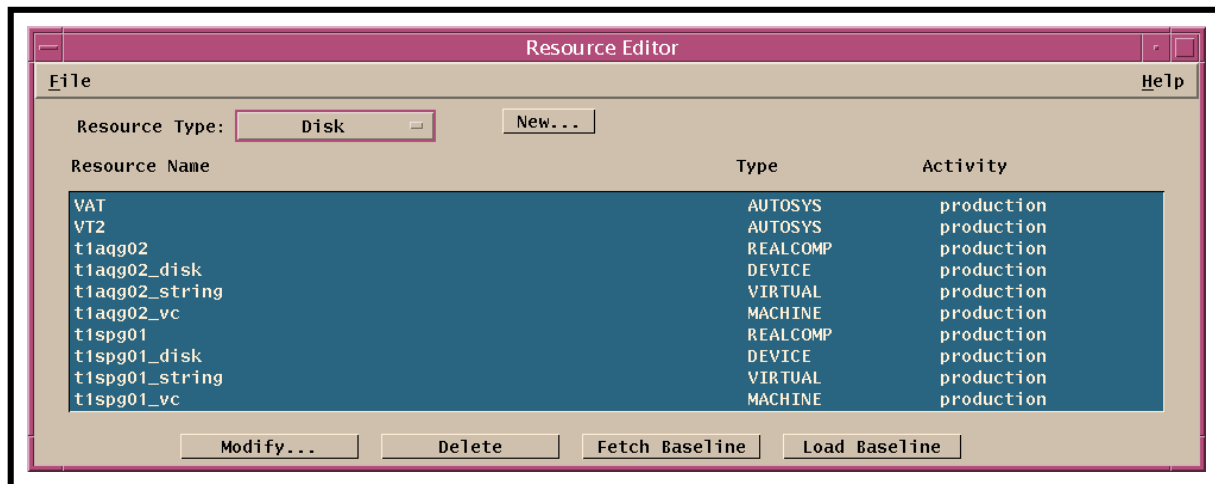
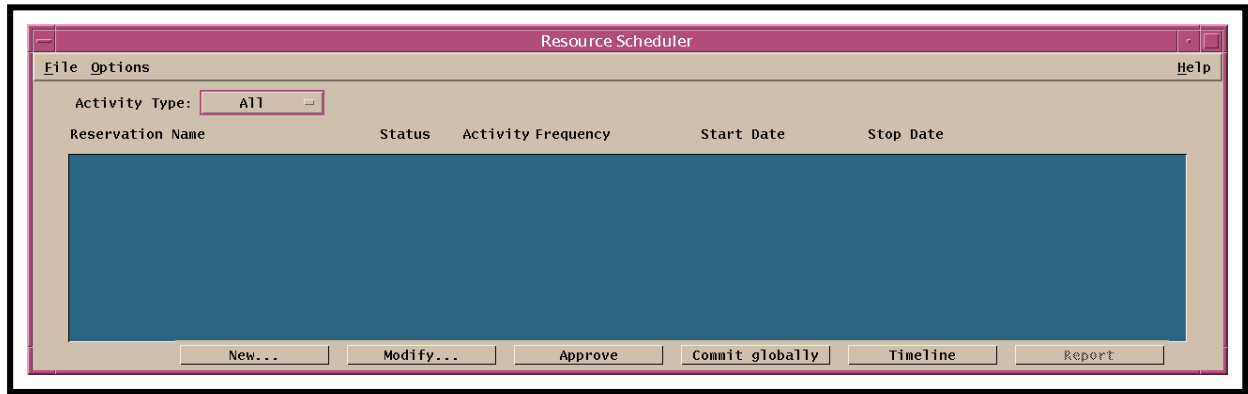

Figure 4. Resource Editor
Figure 5. Resource Scheduler
- The **Resource Editor** (Figure 4) is displayed.
- The **Resource Scheduler** (Figure 5) is displayed.
Shutting down resource planning applications starts with the assumption that the **Resource Editor** (Figure 4) and the **Resource Scheduler** (Figure 5) have been launched and the GUIs are currently being displayed.
- The **Resource Editor** (Figure 4) disappears.
- The **Resource Scheduler** (Figure 5) disappears unless there are resource reservation requests with a status of “approved”.